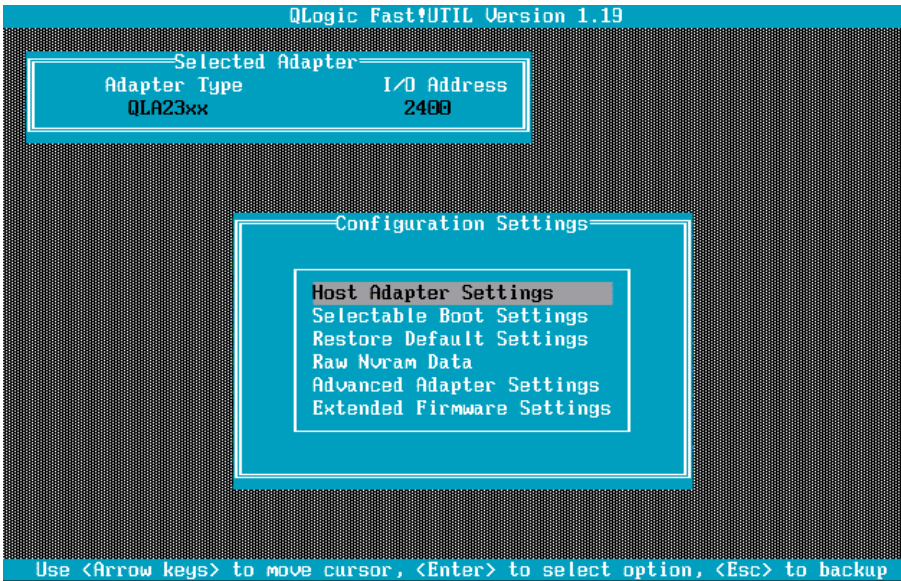

Figure 94. Fast!UTIL Configuration Settings
- The Configuration Settings screen is displayed, shown in Figure 94. Select Host Adapter Settings and press Enter.